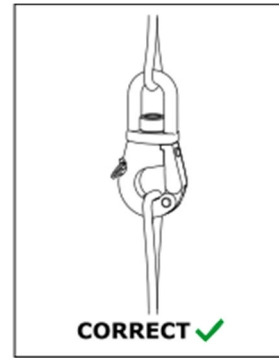

Figure 1a
- Evidence of unauthorized alterations such as drilling, machining, grinding or other modifications Load must be centered on the saddle of the hook. (Figure 1a)